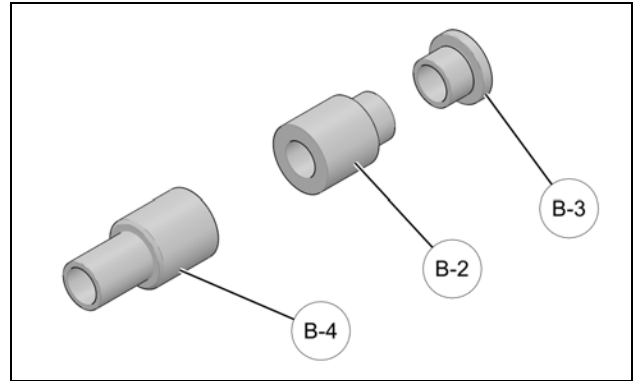

Figure 12
- Identify the T-Bushings to be installed on the rear frame's mounting points. See Figure 12.